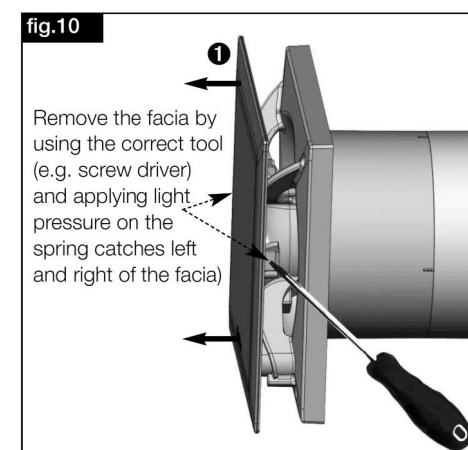

fig.10
2. Remove the fascia (1) by using the correct tool (e.g. screw driver) and applying light pressure on the spring catches left and right of the fascia (Fig.10).